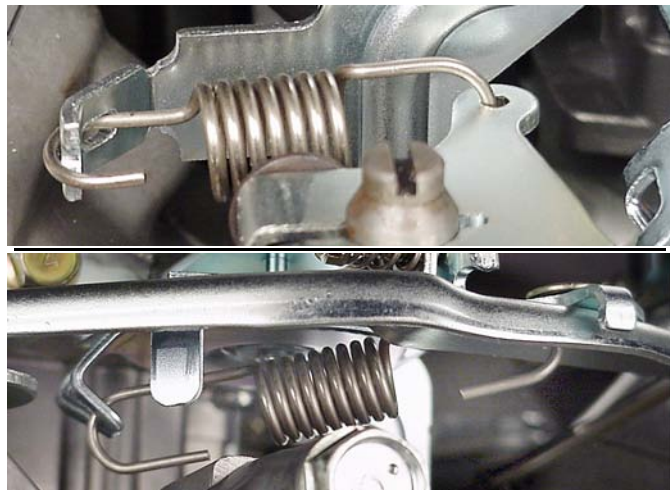

Fig. 168
7. Assemble throttle link and spring to governor lever, Fig. 168.